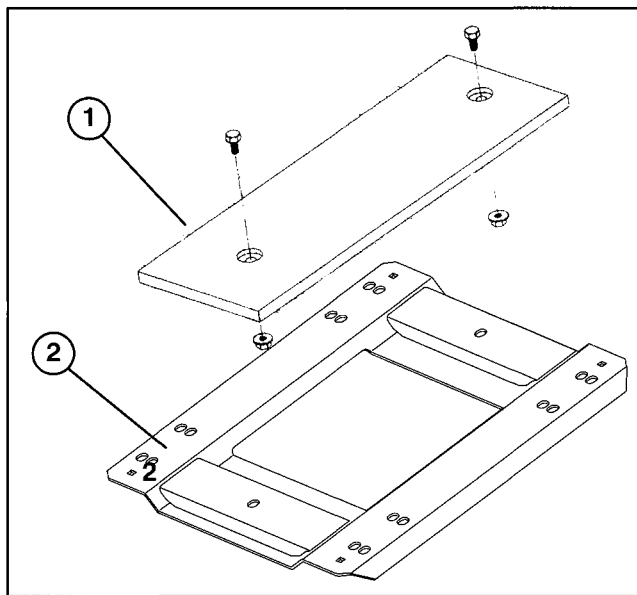

Figure 5
Note: For operators that are lightweight, (less than 150 pounds) and short in stature (less than 5'4" tall), an optional weight kit (Toro part no. 80-4210) for seat model 30796 is available from your Authorized Toro Distributor. Mount weight to top of seat plate with (2) capscrews and flange nuts as shown in Figure 5. When using weight, seat slide adjusters should be mounted in the forward set of holes provided in seat plate to insure seat can be positioned forward enough to provide comfortable operation and control of the mower.